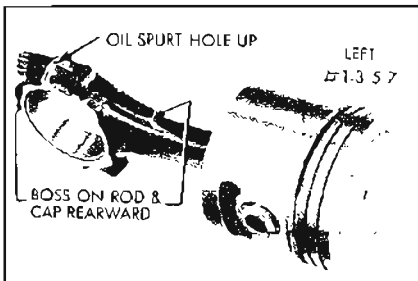

Figure 2-48—V-8 Left Bank Piston and Rod Assembly
2. If the piston and rod assembly is to be installed in the left bank the assembly must be made as shown in Figure 2-48 or 2-49.
rod cap will be on the same side as the conical boss on the connecting rod web, and these marks, (rib and boss) will be toward the other connecting rod on the same crankpin. See Figures 2-48, 2-49, 2-50 and 2-51.